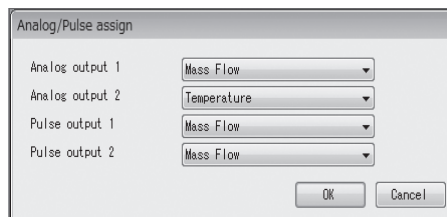

Fig.34
- ① Click on "Setup (S)" > "Outputs" > "Analog/Pulse assign" in the menu.
- ② The following window will be displayed (Fig. 34). Assign analog output 1 and 2 here, as well as pulse output 1 and 2.